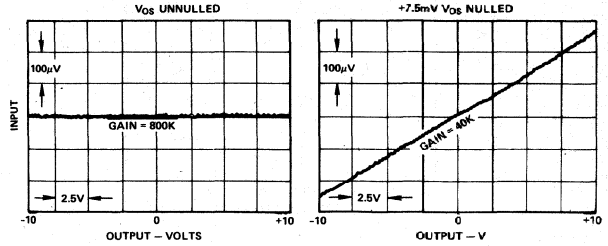

Figure 4. Gain Error Voltage Before and After Nulling a Typical 741 Op Amp
**Nulling** — The gain of a 741 op amp varies considerably with nulling (see Figure 4).